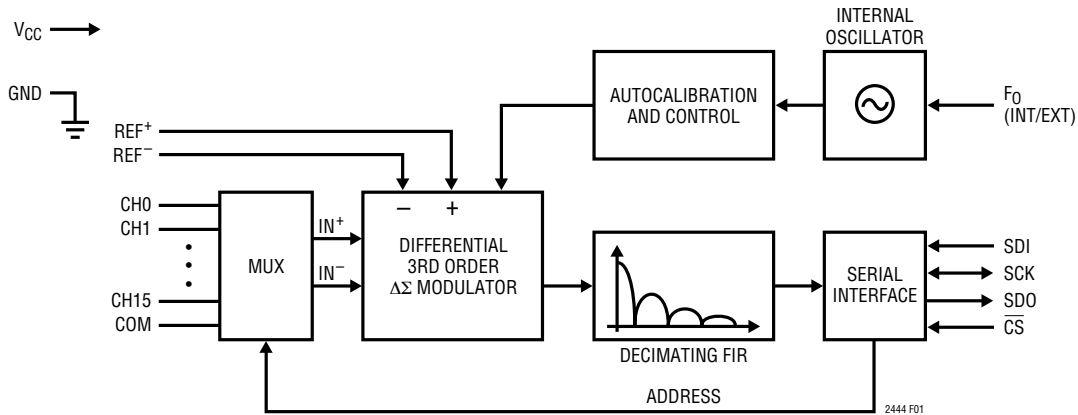
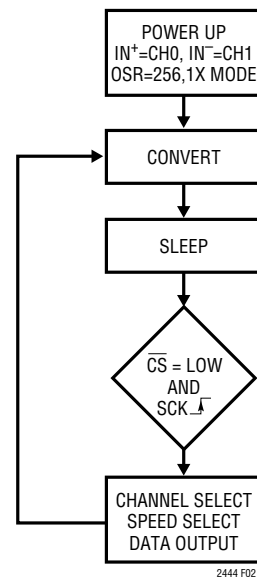

Figure 1. Functional Block Diagram
Figure 2. LTC2444/LTC2445/LTC2448/LTC2449 State Transition Diagram
The LTC2444/LTC2445/LTC2448/LTC2449 are multi-channel, high speed, delta-sigma analog-to-digital converters with an easy to use 3- or 4-wire serial interface (see Figure 1). Their operation is made up of three states. The converter operating cycle begins with the conversion, followed by the low power sleep state and ends with the data output/input (see Figure 2). The 4-wire interface consists of serial data input (SDI), serial data output (SDO), serial clock (SCK) and chip select (CS). The interface, timing, operation cycle and data out format is compatible with Linear's entire family of  $\Delta\Sigma$  converters.